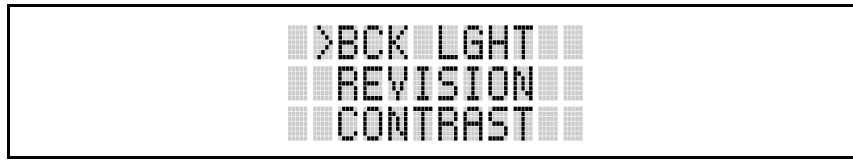

Figure 12: Menu Display
2. Upon entering the menu selection mode, Menu options will appear on the display (see Figure 12).